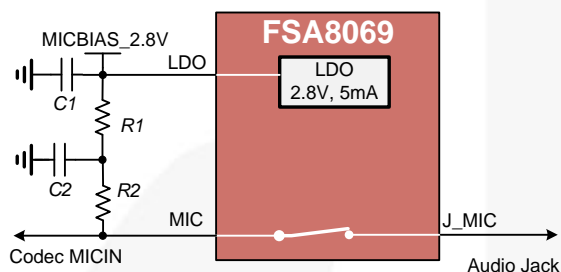

Figure 7. MIC Bias and MIC Switch Circuit
2. 2.2 kΩ can generally be used in applications to bias the accessory microphone. Two separate resistors totaling 2.2 kΩ with a large capacitor between them can improve noise rejection performance, as shown in Figure 7.